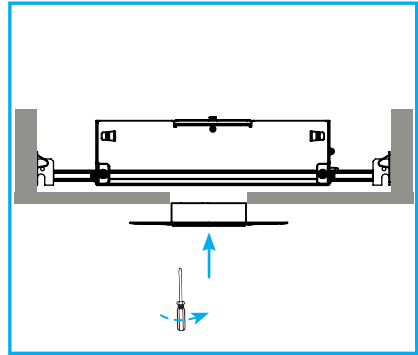

Fig.31
**With Housing:** For installations utilizing a downlight housing, first remove foam plug. Raise appliqué assembly into housing collar, and attach using screws inside applique collar, referencing *"Fig.28"* for screw location. *"Fig.31"*.